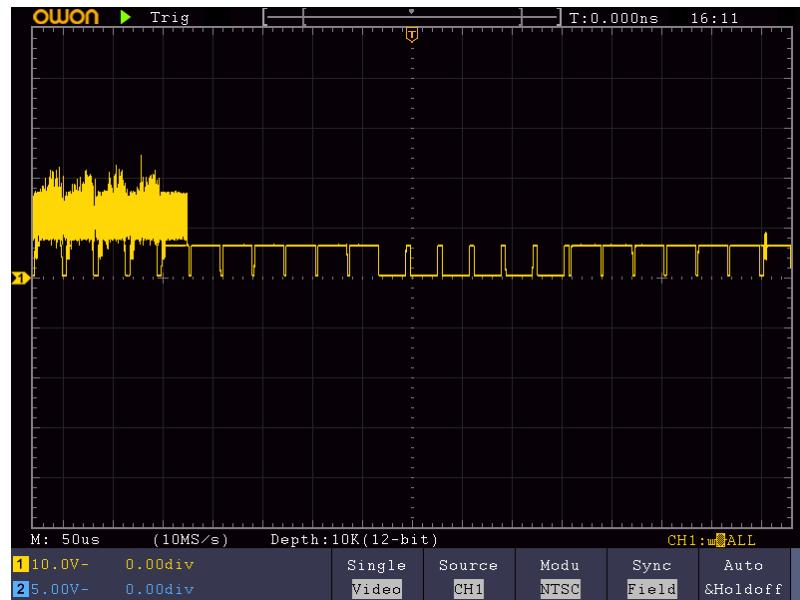

Figure 6-7 Waveform Captured from Video Field Trigger
- (1) Push the **Trigger Menu** button to display the trigger menu.
- (2) Select the first menu item in the bottom menu. Select **Single** in the right menu.
- (3) In the left menu, select **Video** as the mode.
- (4) Select **Source** in the bottom menu. Select **CH1** in the right menu.
- (5) Select **Modu** in the bottom menu. Select **NTSC** in the right menu.
- (6) Select **Sync** in the bottom menu. Select **Field** in the right menu.
- (7) Turn the **Vertical Scale**, **Vertical Position** and **Horizontal Scale** rotary controls to obtain a proper waveform display (see *Figure 6-7*).